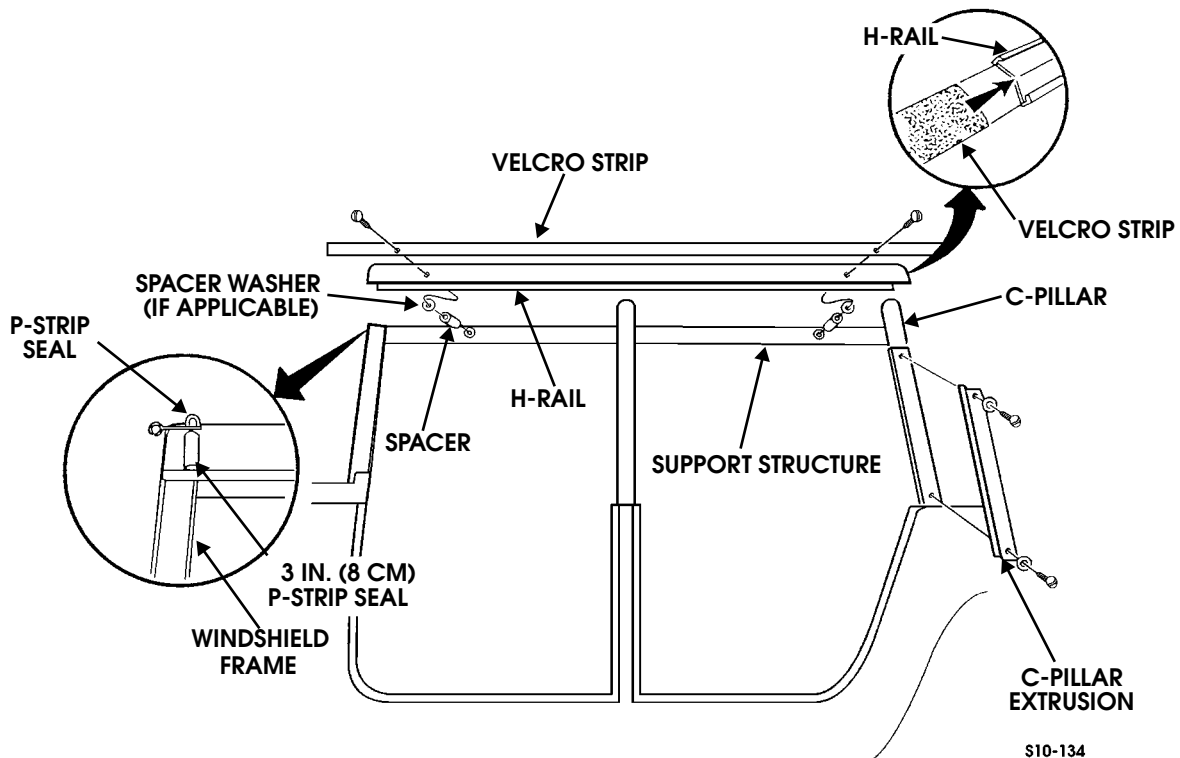

Figure 10-141: Rail and Support Structure Locations
1. Secure C-pillar extrusion to C-pillar with two washers and screws (Figure 10-141).